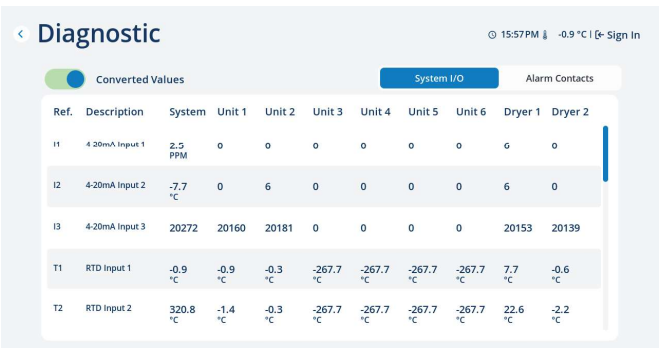

Figure A.3.8.2 Diagnostic Screen
- **Diagnostic** – Two tabs depicting the I/O status of the connecting unit controller board. The first tab (Figure A.3.8.2) lists the digital inputs (X1-X3 as 0 or 1), the analog readings (T1-T3, I1-I3, and P1-P2 with A/D values), the 24VDC powered digital outputs (Z1-Z4 as 0 or 1), as well as the statuses of “Fan Enable (Off/On)”, “Backup Switch (Open/Closed)”, and “Override Switch (On/Off/No)”. The values on the first tab can be displayed in their raw state as described above or as converted values changed into their corresponding units of measurement (Note: Values from disconnected I/Os may also convert, but these converted values are incorrect and should be ignored). The second tab lists alarm contacts as “Open” or “Closed”. “Open” contacts are in alarm state.